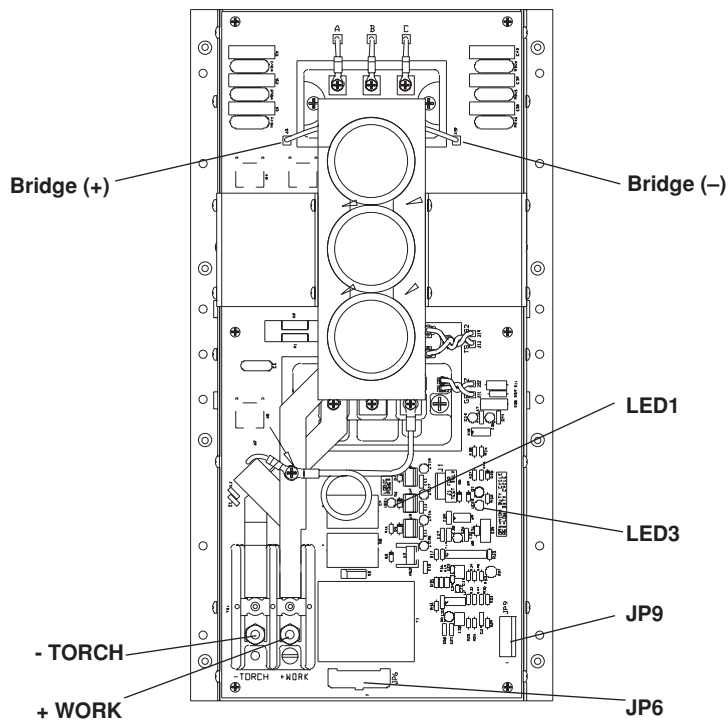

Figure 8-3 Chopper Module – Front View
3. Place the positive lead to the + side of the bridge and the negative lead to the – side of the bridge. See Figure 8-3. Note that actual connection points are hidden by cap support bracket in Figure 8-3.